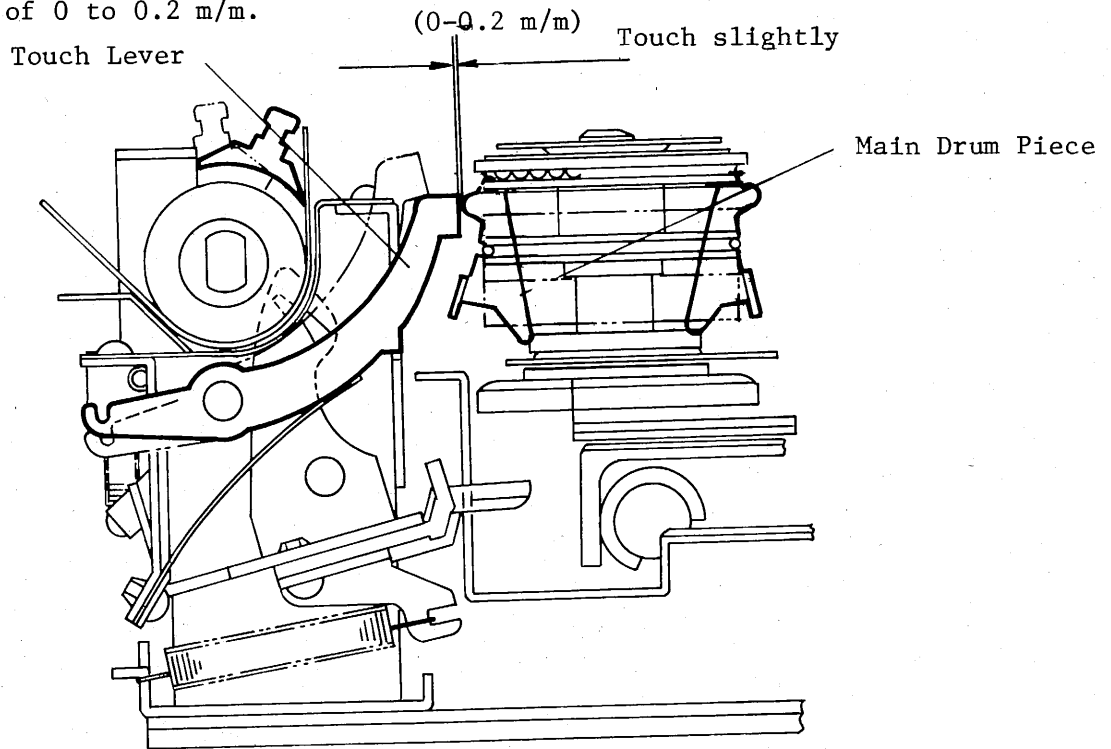

Fig. 87
- (2) As shown in Fig. 87 moving Carriage in such a way as Main Drum will align with a Touch Lever, bring Pattern Assembly towards Drum Unit so that the clearance between Main Drum and a Touch Lever will fall within a range of 0 to 0.2 m/m.